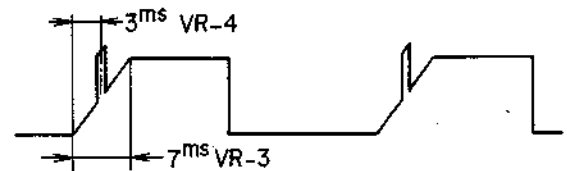

Fig. 7
- (5) Connect Oscilloscope to Test Point TP-3. Adjust VR-3 (10 kΩB) so that the Trapezoid Wave Ramp Slope is 7 ms as shown in Fig. 7. Further, adjust VR-4 (30 kΩB) so that the Phase Control Sampling Pulse is 3 ms away from the rise-up point of Trapezoid Wave (Fig. 7).